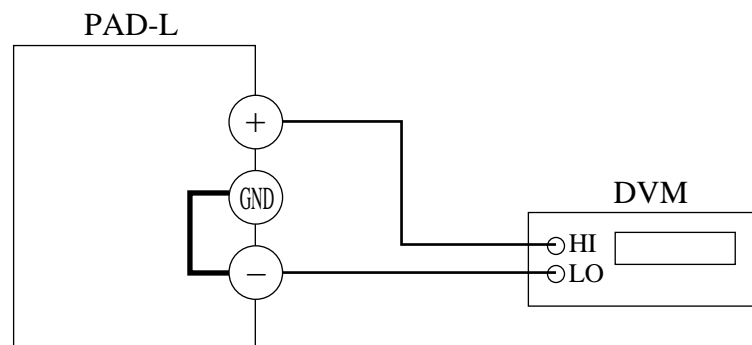

Fig. 6-4 Connection for voltage system adjustment
2. Connect a DVM to output terminals as shown in Fig. 6-4.